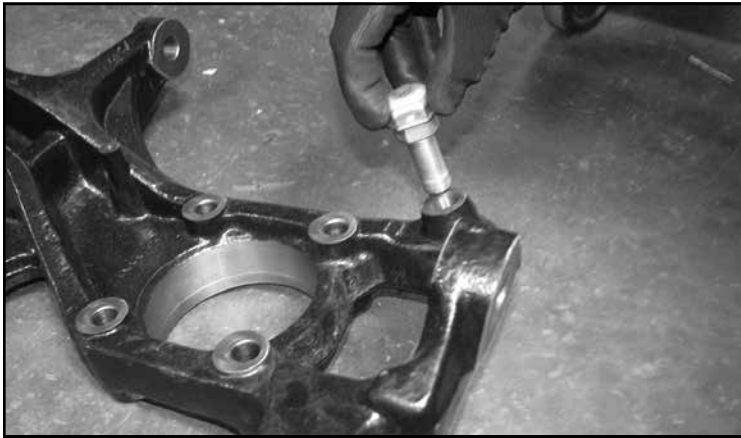

FIGURE 51 - STEP 35
35. Install the steering stop bolt all the way into the FT60074D (Driver knuckle). **SEE FIGURE 51**